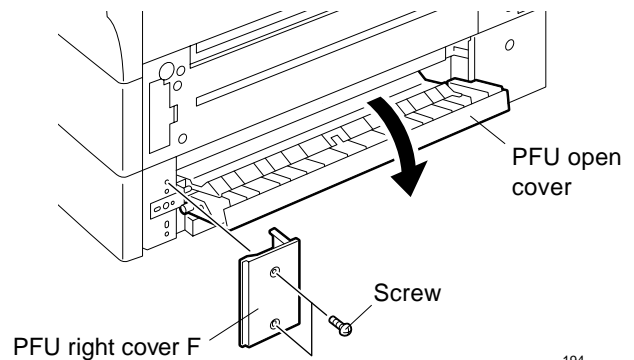

Fig. 6-2
1. Detach PFU right cover F. (See Fig. 6-2)